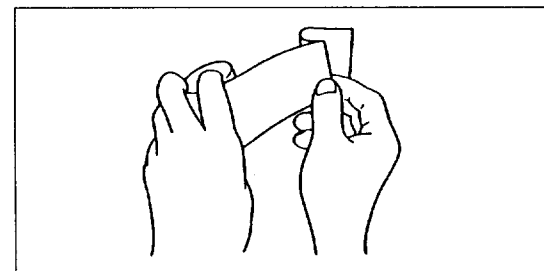

Figure 19
- (3) Pull out the paper one revolution of the roll and fold it (see Figure 19).